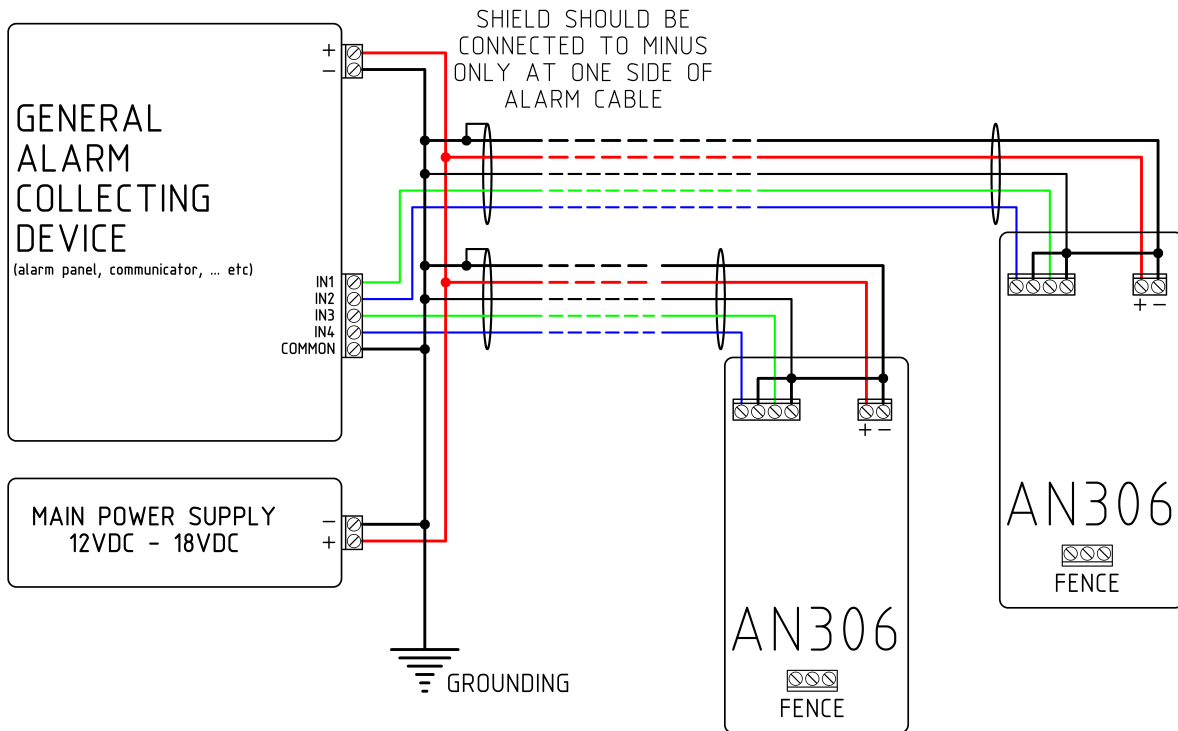

Figure 15: Connecting more than one AN306 to the back end
The supply and the output signal should be connected to the main unit by a shield alarm cable with eight or more wires (2 x 1,5 + 6 x 0,22). The supply voltage is 12 VDC, and can be between 8 and 18 Volts (See Figure 9 and Figure 15).
One possible way of connecting the AN306 system to the back end is shown in Figure 15. Each AN306 is connected with a shielded alarm cable containing six wires (2 x 1,5 + 4 x 0,22). Due to the possibility of lightnings we must abide by some rules:
- The minus terminal at the AN306 and the terminals of relays, which have same potential (minus power supply), should be connected to each other inside AN306 if possible ( please see Figure 9 and Figure 15). Before doing this, it must be checked if the common terminal and the minus terminal on GACD have the same potential (resistance between those terminals must be less than 0.1 Ohm).